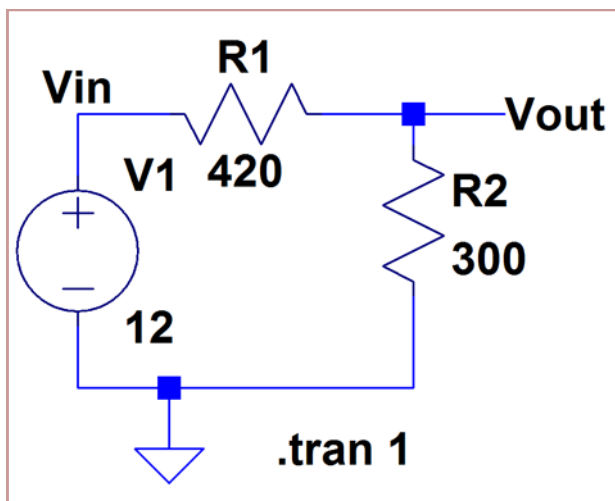
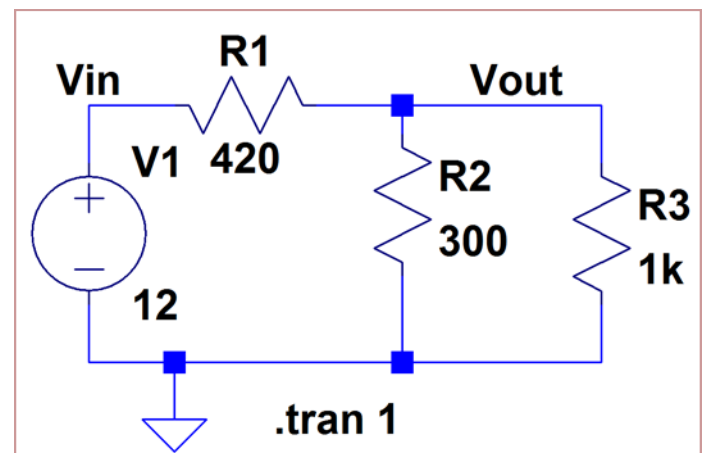

Figure 13. Voltage divider.
Figure 14. Voltage divider with load.
1. Simulate the schematic shown below in Fig. 13. This is a voltage divider that outputs 5V from a 12V input. Find the power dissipated in each resistor. This is done by holding the “ALT” key and clicking over the element. **(Schematic, Input/Output Plot of Voltage, Powers in Resistors)**
3. Add a 1k load to the schematic in Fig. 13, resulting in Fig. 14. Plot the outputs and calculate the percentage change in the voltage output from 5V. **(Schematic, Output Voltage Plot, Hand Calculation)**
4. Draw the schematic of your Thevenin equivalent circuit and simulate with the 1k load. Verify that the output voltage is the same as (3). **(Schematic, Output Voltage Plot)**